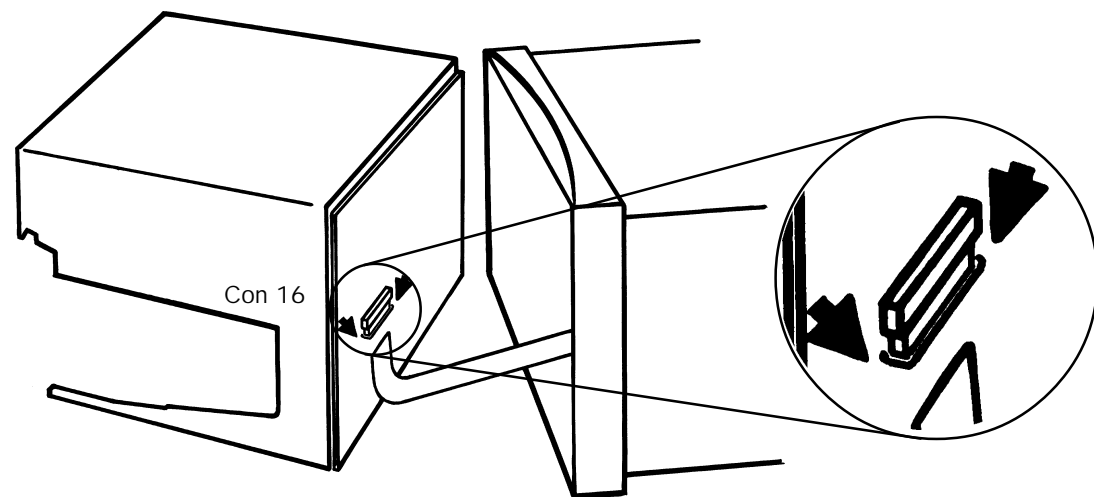

Figure 3 Disconnect the flexi-cable
4. Carefully withdraw the recorder from the case, and remove the flexi cable from connector 16 as shown in figure 3. This connector is made up of a fixed part and a moving clamp part. The Clamp should be gently prised away from the fixed part, until the flexi can be easily removed.